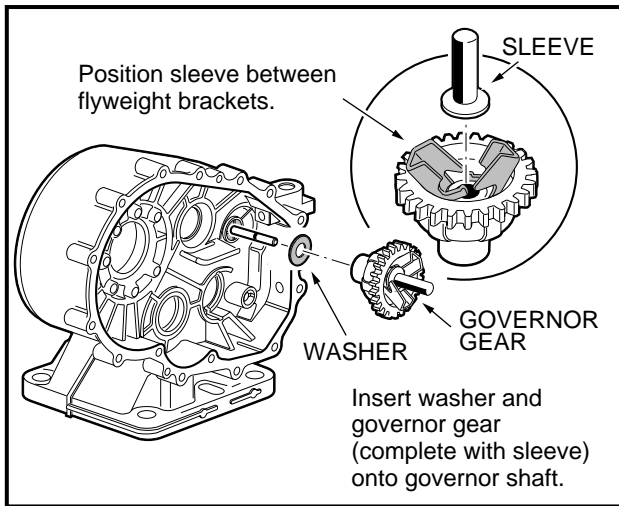
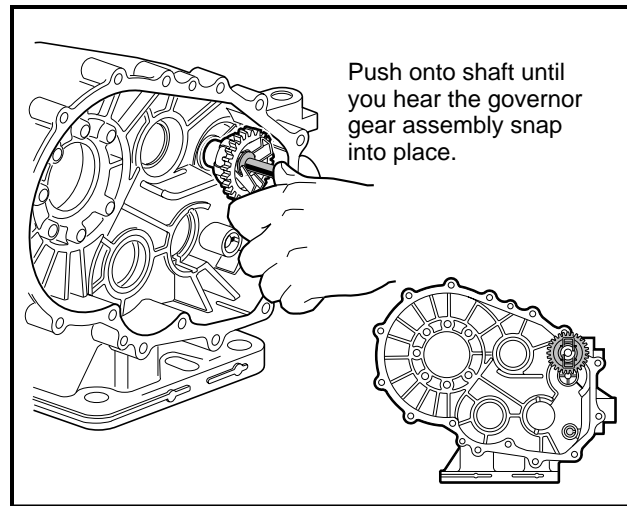

Figure 16-69 Position Governor Gear
Figure 16-70 Install Governor Gear
4. Install the washer, governor gear, and sleeve together onto the governor shaft (**Figure 16-69, Page 16-30**). Make sure the sleeve is properly positioned within the flyweight brackets of the gear as shown (**Figure 16-70, Page 16-30**), and then push them onto the shaft until the gear snaps into the groove on the shaft.